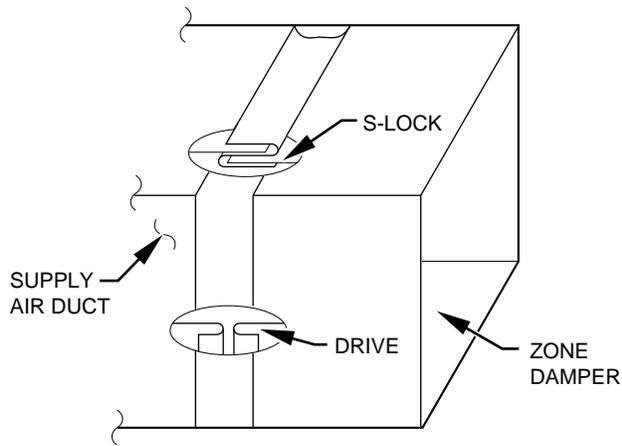

Fig. 10—Rectangular Metal Ductwork A92478
1. Make connections using S-lock and drives (See Fig. 10.)